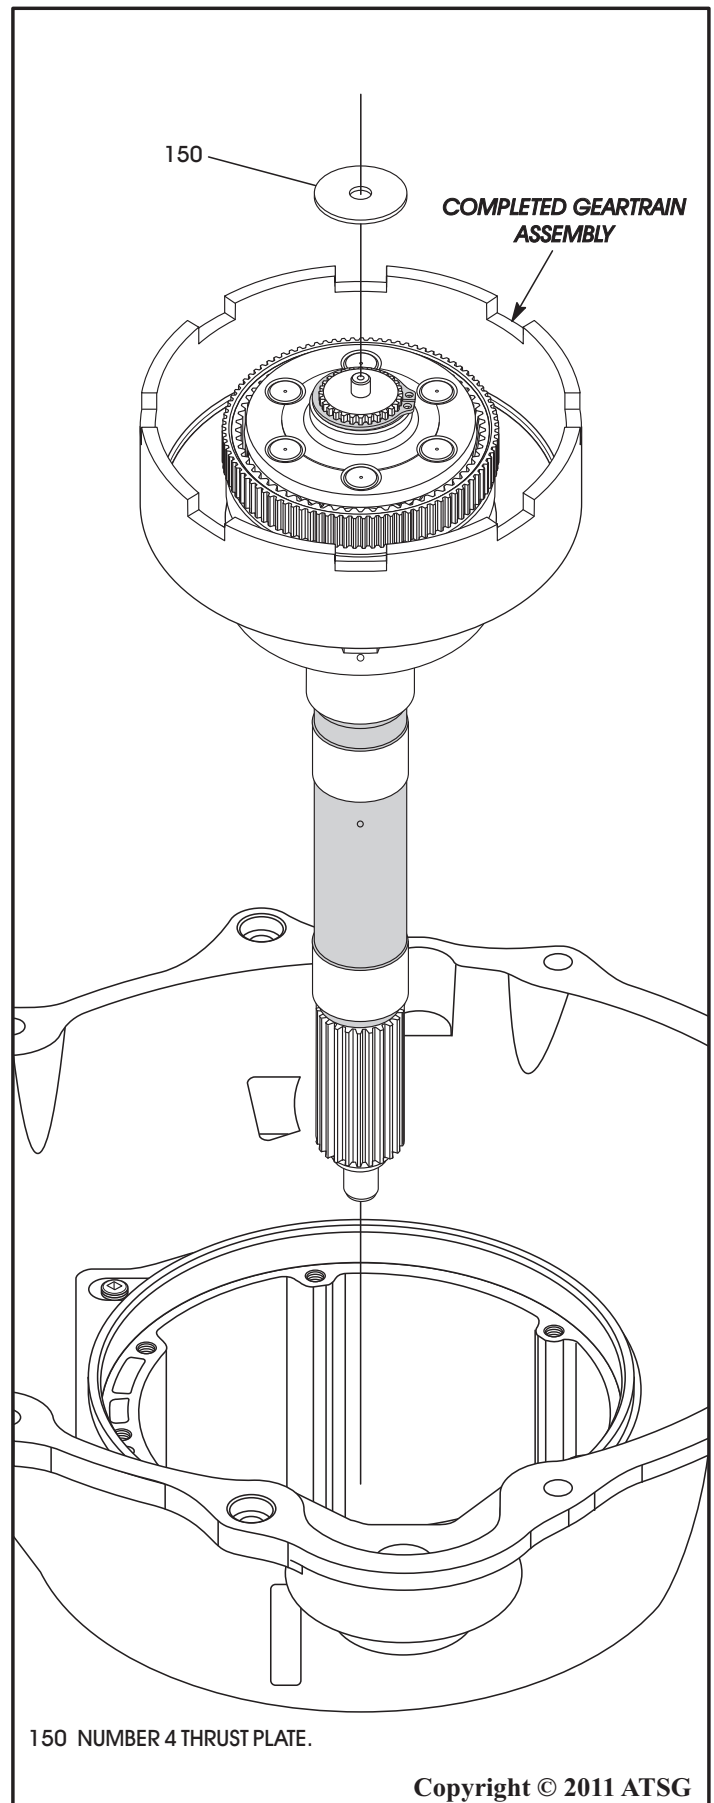

Figure 220
7. Install completed geartrain assembly, as shown in Figure 220.
8. Install the number 4 thrust plate on front of the output shaft, as shown in Figure 220, and retain with a small amount of Trans-Jel®.